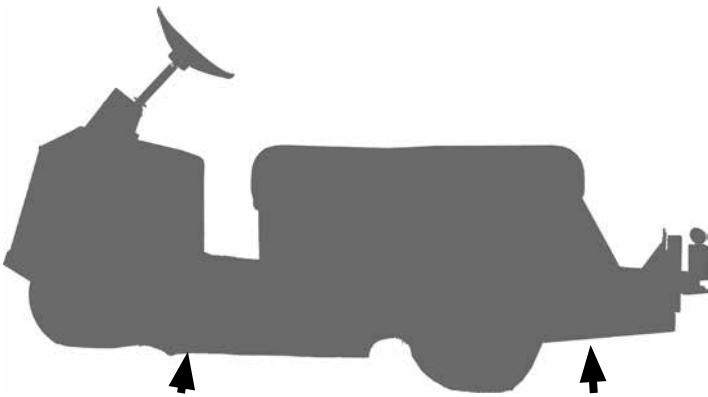

Figure 12: Position the jacks or jack stands
Lifting the front: To remove a front wheel or axle: First chock the front and rear of the rear tires. Loosen the front wheel hardware. Position the jack in the location indicated in Figure 12 below and carefully raise the front of the vehicle, taking care that the rear wheels do not move. Position jack stands in the locations indicated and slowly lower the vehicle to rest on the jack stands and test the stability of the vehicle.
1. Position the jack in the proper position (Figure 12)